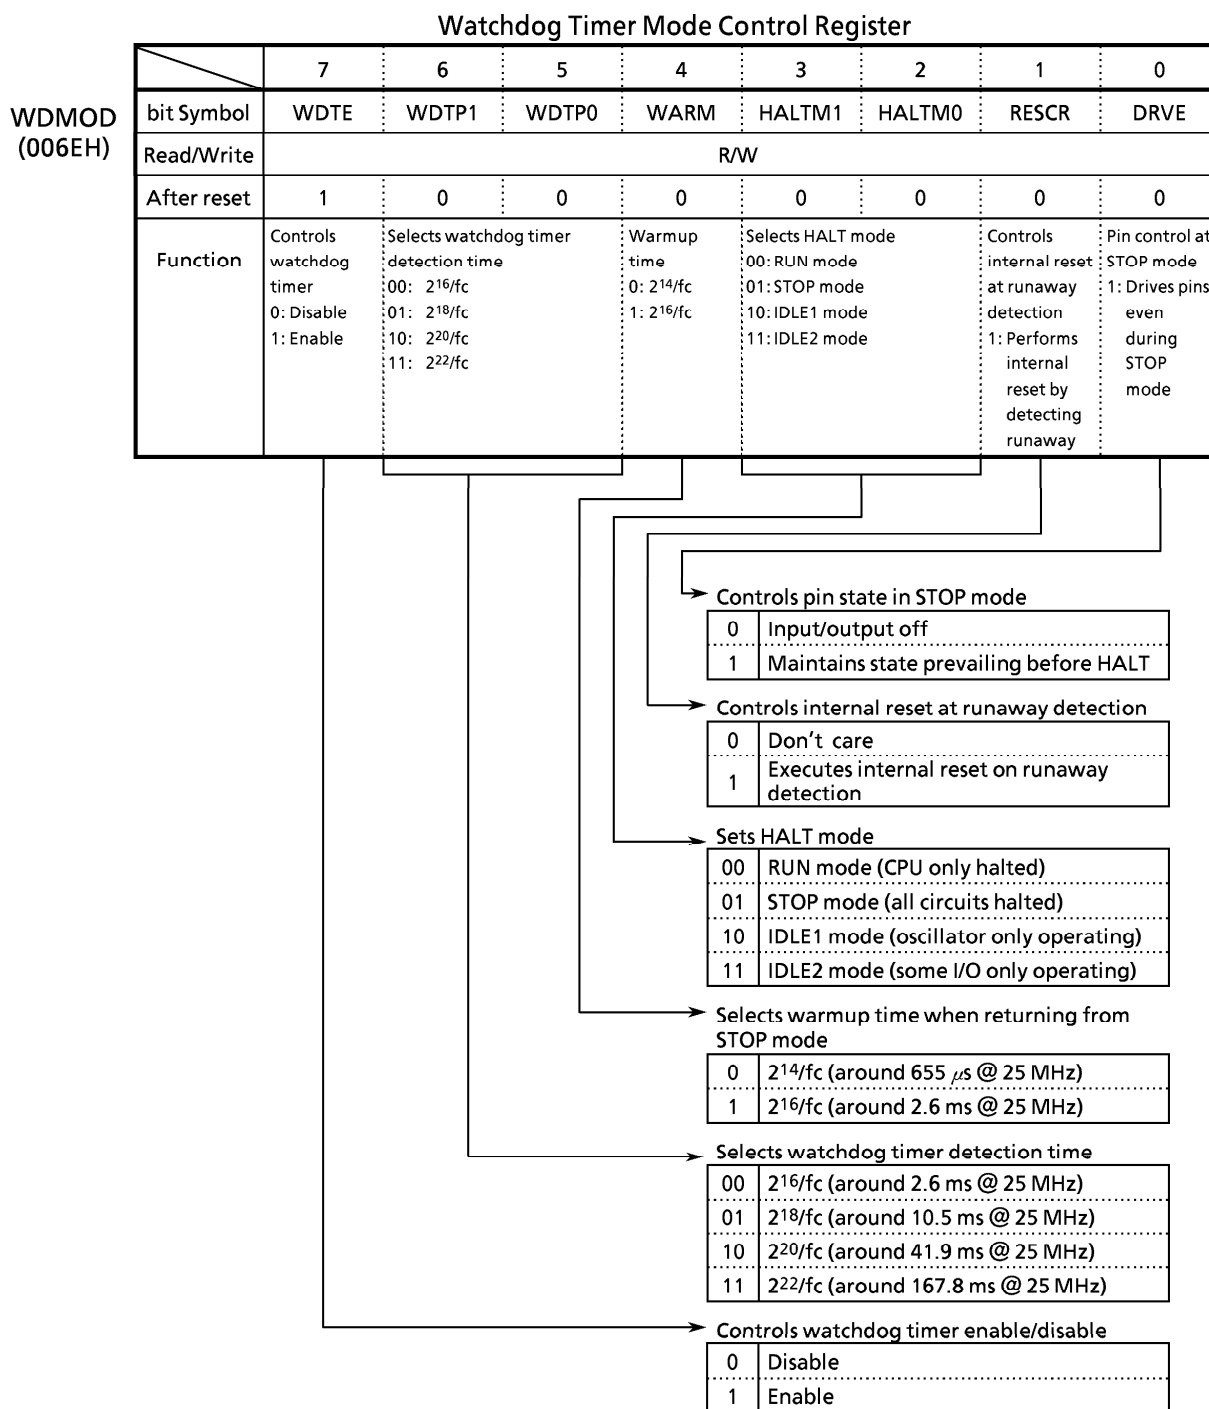

Figure 3.4 (1) Watchdog Timer Mode Control Register
(1) HALT modes
When TMP95CS64/265 executes the HALT instruction, WDMOD <HALTM1:0> of the watchdog timer mode register can be used to set one of the following HALT modes: RUN, IDLE2, IDLE1, STOP. Figure 3.4 (1) shows the watchdog timer mode control register.